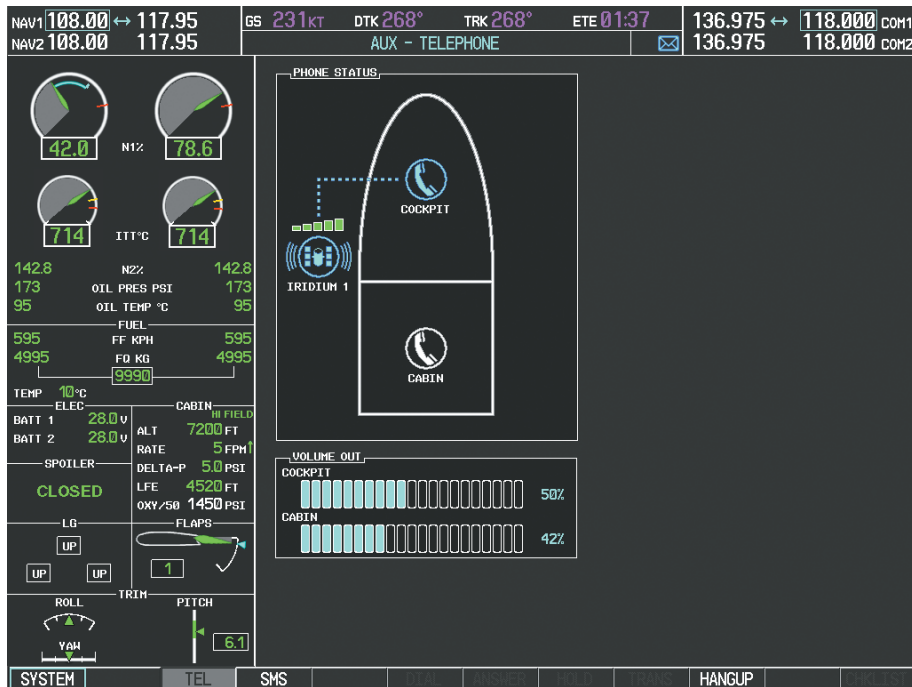

Figure 8-87 System is Making the Connection
7) Press the **ENT** Key. The system will begin calling the number, as in Figure 8-87.